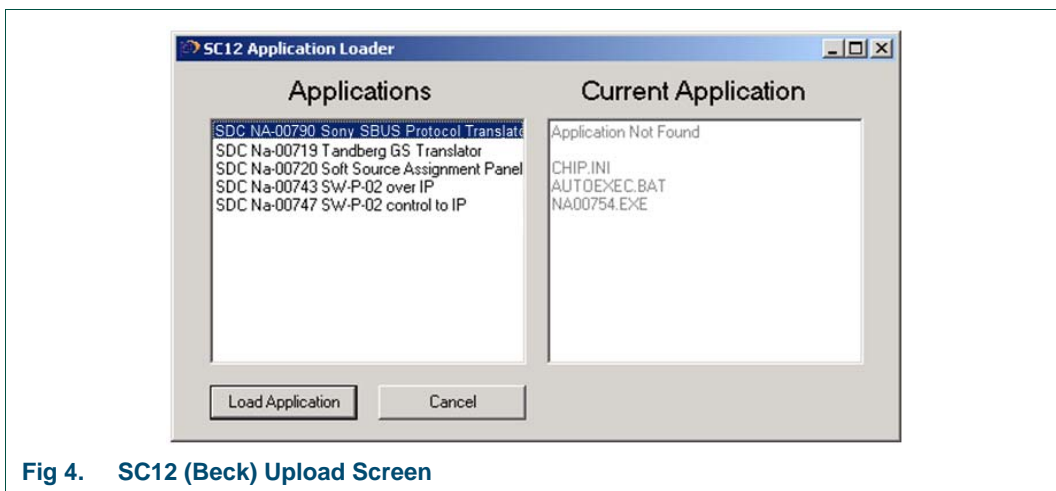

Fig 4. SC12 (Beck) Upload Screen
10. Check what applications exist on the router controller by clicking on the **Load App** button. A screen similar to the one shown in Figure 4 will be displayed: